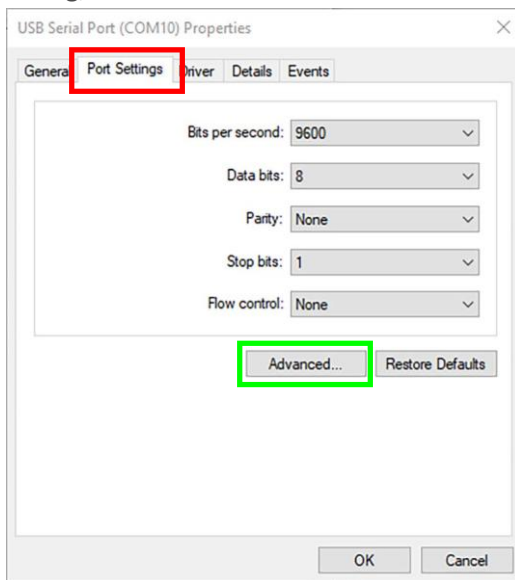

Figure 33 *USB Serial Port Properties dialog*
3. Click on the **Port Settings** tab (outlined in red in Figure 33) in the USB Serial Port Properties dialog, and then click the **Advanced** button (outlined in green in Figure 33).